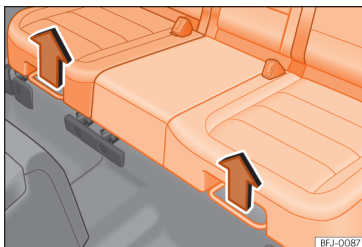

Fig. 105 Under the bench of the rear seat: setting levers.
- Pull the right of left lever, in the direction of the arrow »» **Fig. 105**, and move the part corresponding to the seat to the front or the back.